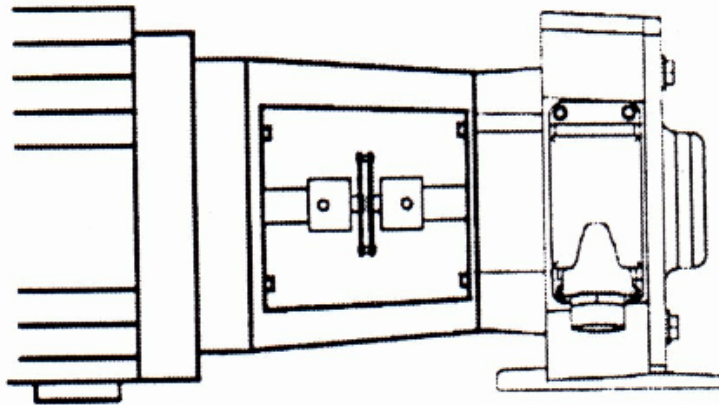

Figure 3: Model 6200 56 C Face/ Bracket Mounting
1. Mount the C-Face adapter bracket (not supplied) onto the motor per manufacture's instructions. See Figure 3. Be sure the 4.5 inch C-Face is concentric to the motor shaft.